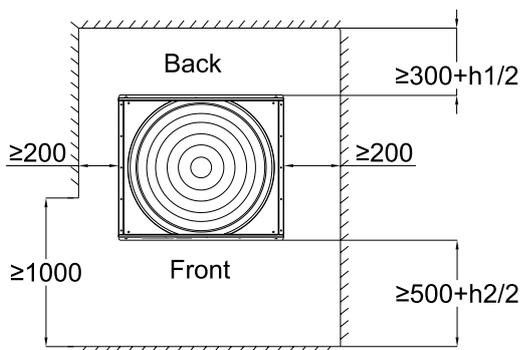

Figure 9
- Obstacles in the front, back and sides (see Figure 9)